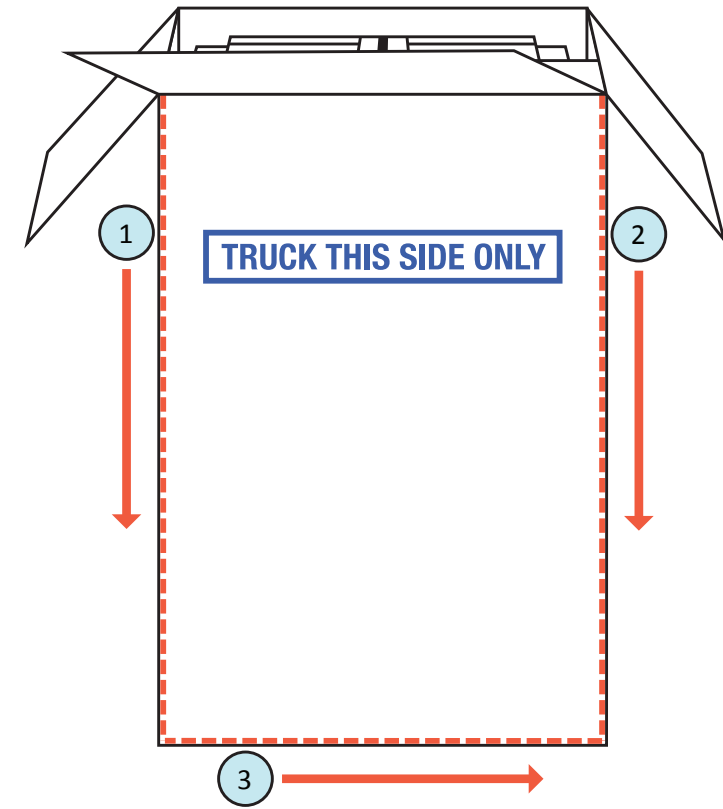

Figure A3b. Removing the “TRUCK THIS SIDE ONLY” side of the carton.
2) Using a utility knife, remove the “TRUCK THIS SIDE ONLY” side of the shipping carton (see figure A3b). Carefully cut down the left and right sides of the box. Let the flap fall to the floor, then cut across the bottom edge (taking care not to damage the floor).